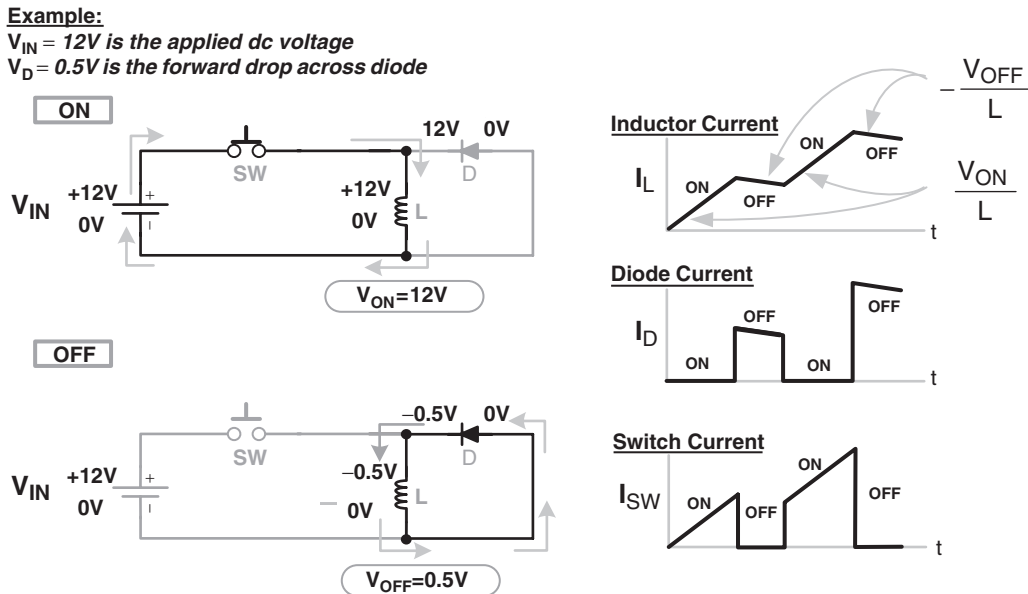

Figure 1-10: Providing a “Diversion” for the Inductor Current through a Diode
In *Figure 1-10* we have created such an *alternate path*. We will see that the way the diode is pointed, this path can come into play automatically, and *only* when the switch turns OFF.
Just to make things clearer, we have used some sample numbers in *Figure 1-10*. We have taken the applied input voltage to be 12 V, and assumed a typical Schottky diode forward drop of 0.5 V. Note that we are assuming a “perfect” switch here (no forward drop), for the sake of simplicity. We make the following observations:
- Yes, if we *wait long enough* the inductor current will finally ramp down to zero (inductor ‘reset’). But if we don’t wait, and turn the switch back ON again, the current will again start to ramp up (staircasing), as shown in *Figure 1-10*.
**Summarizing:** We see that having provided a diversionary path for the current, the inductor isn’t ‘complaining’ anymore, and there is no uncontrolled induced voltage spike anymore. But we certainly have now landed up with a possible problem of escalating currents. And coming to think of it, neither do we have a *useful* output rail yet, which is what we are basically looking to do finally. In fact, *all that we are accomplishing in Figure 1-10 is dissipating some of the stored energy built up in the inductor during the on-time, within the diode during the off-time.*
To finally solve all our problems in one go, let us take a hint from our “natural world of voltages”. Since we realize we are looking for an *output dc voltage rail*, isn't it natural to use a *capacitor* somewhere in the circuit of *Figure 1-10*? Let us therefore now interpose a capacitor in series with the diode, as shown in *Figure 1-11*. If we do that, the diode (freewheeling) current would charge the capacitor up — and hopefully the capacitor voltage would eventually reach a steady level ' $V_O$ '! Further, *since that would increase the voltage drop appearing across the inductor during the off-time ( $V_{OFF}$ ), it would increase the rate at which the inductor current can ramp down* — which we recognize was the basic problem with the circuit in *Figure 1-10*. So we are finally seeing light at the end of the tunnel — by making  $V_{OFF}$  comparable to  $V_{ON}$ , we are hoping to achieve *voltseconds balance* expressed by  $V_{ON} \times t_{ON} = V_{OFF} \times t_{OFF}$ .
**Note:** Under the abnormal condition of an output short for example, *Figure 1-11* effectively reduces to *Figure 1-10*! Therefore, to protect the converter under such conditions, a *current limit* is required.